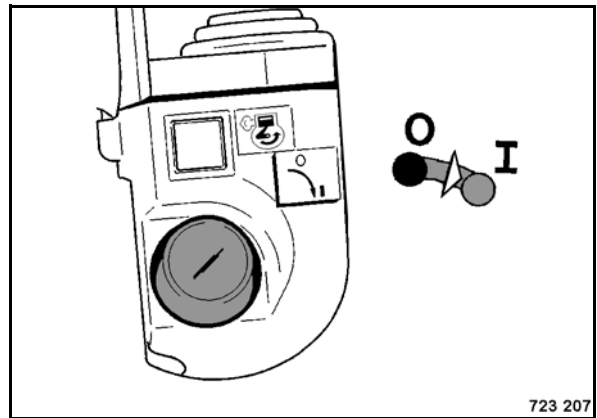

Fig. 62
- Switch on the ignition (Fig. 62).